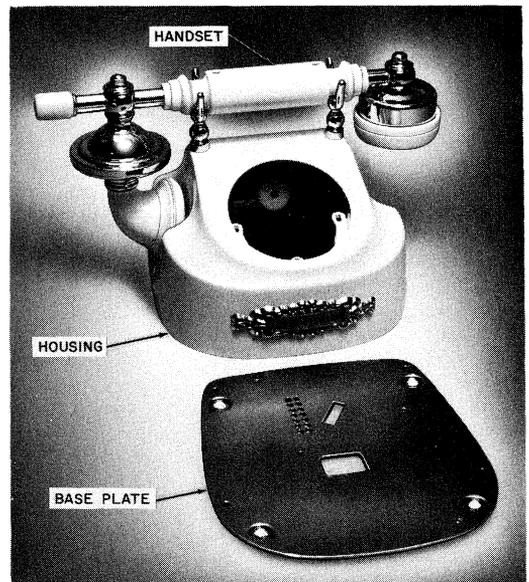

Fig. 2—Customer-Owned Components
2.01 The 882A200 rotary dial equipped set is a new DESIGN LINE telephone set being made available to the customer. The customer buys the housing and handset from the telephone company and the telephone company retains ownership of the transmission and signaling components (Fig. 2 and 3).
- (1) Remove the four mounting screws from the bottom of telephone set and remove the baseplate Fig. 2.
- (2) Remove components that are mounted to, or held by the baseplate.
- (3) Remove three dial mounting screws and remove the rotary dial.
- (4) Unscrew transmitter and receiver caps and remove T1 transmitter and LB1 receive units.
- (5) Replace baseplate.